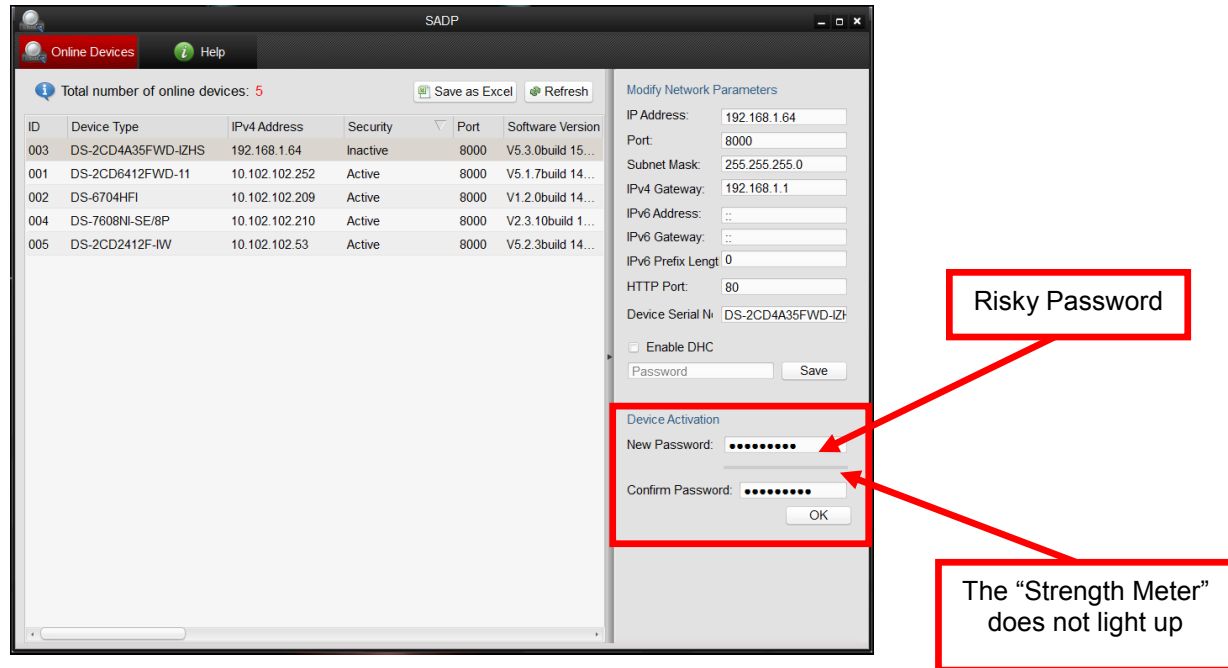
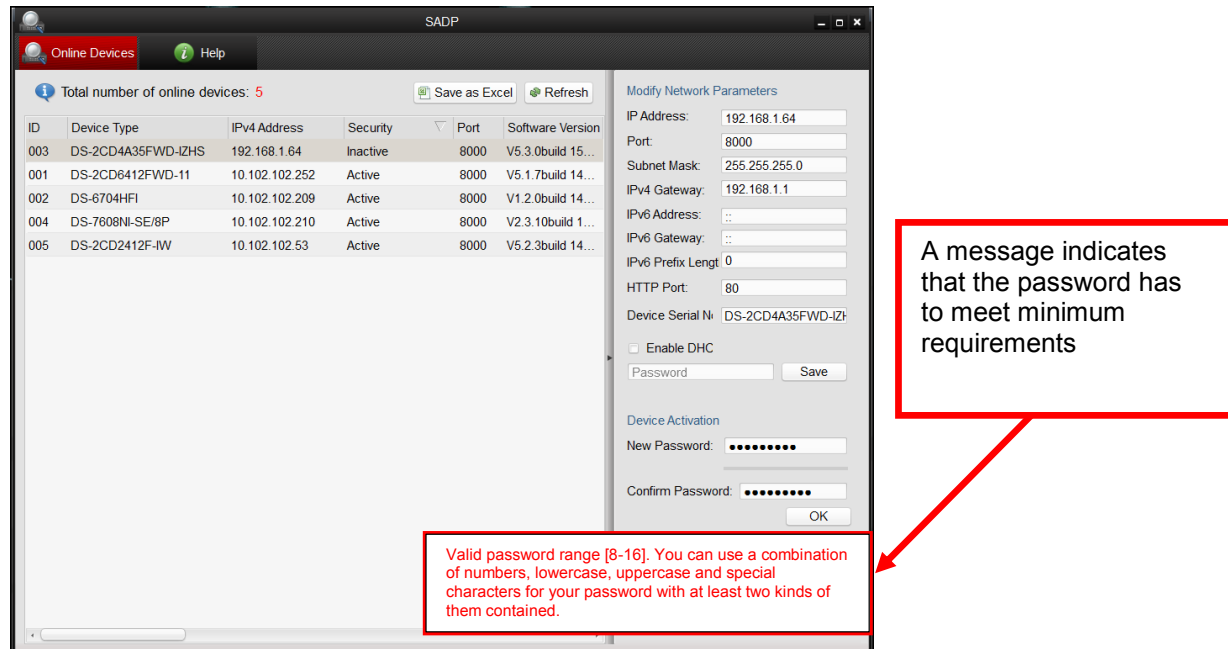
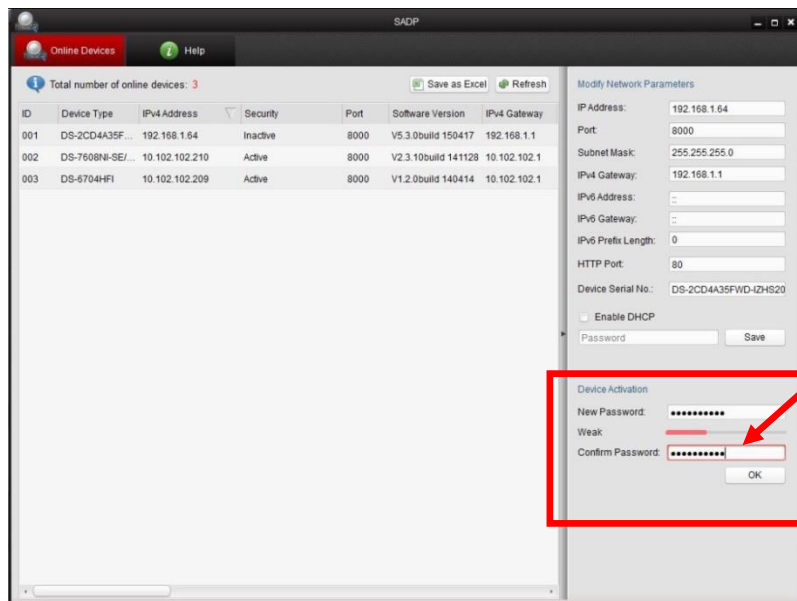
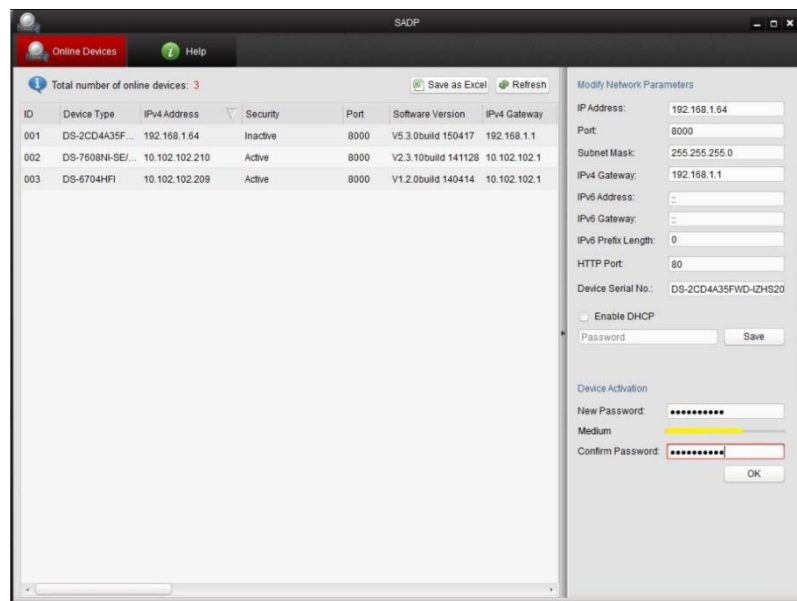

Figure 108 Password Field with "Risky" Unacceptable Password
Figure 109 "Risky" Unacceptable Password Warning Message
Figure 110 Password Field with Acceptable “Weak” Strength Password
Figure 111 Password Field with Acceptable “Medium” Strength Password
8. Create a password of your choice by entering a new password into the “New Password” field on the bottom right of the screen (Figure 108). See “Reference” section on page 15 for guidelines.
- Activation will not be allowed unless the password is of acceptable strength ("Weak," Figure 110, "Medium," Figure 111, or "Strong," 错误!未找到引用源。). If the password is of unacceptable strength ("Risky," Figure 108), a warning box will be displayed (Figure 109).